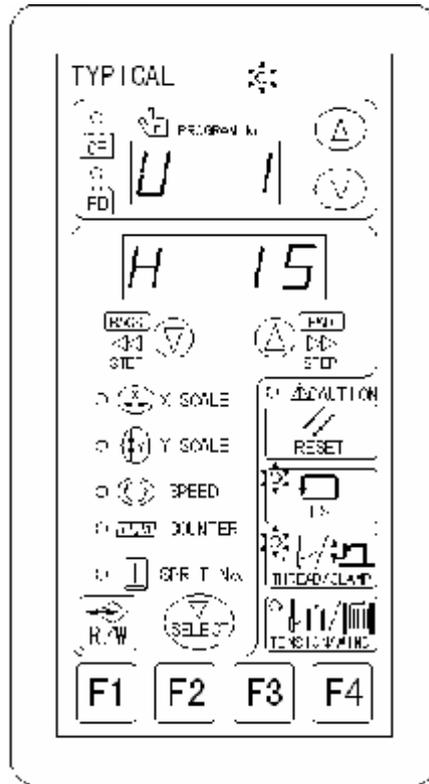

Fig. 5-25
6. Press  key, to switch to presser foot frame height set-up interface (as shown in Fig. 5-25), lift the presser foot frame with  key indicator light flashing. Press  or  key to change presser foot frame height.